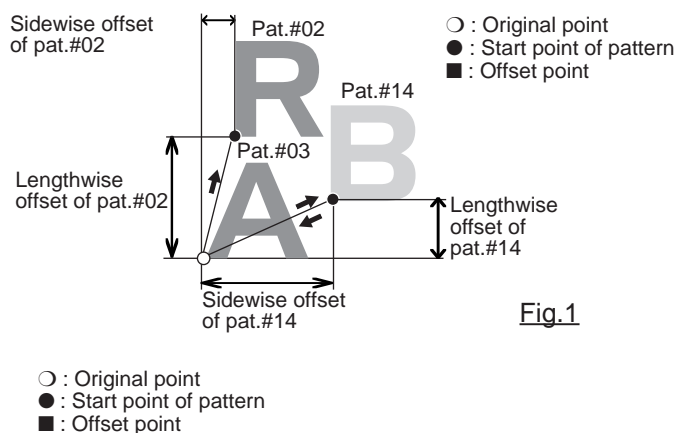
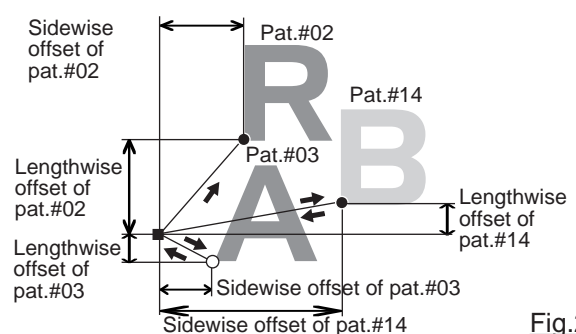

Fig.1
Fig.2
- If you embroider a pattern like in Fig.1, you will need to set an offset as a pivot to each pattern in advance. If the offset is set to the first pattern like in Fig. 2, you will need to set a setoff point to the first pattern with the offset of the other pattern as a pivot. P12-8
The embroidery area for each registered frame is set to the inside of the frame edge to allow for pressure foot clearance. (Fig. 1)